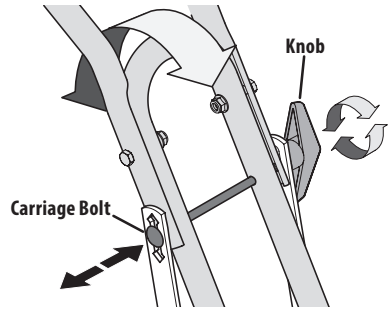

Figure 4
- There are three height adjustment holes in the handlebar support bracket. Use a setting that will position the handlebars at approximately waist level when the tines are 3-4 inches into the soil. To adjust the height of the handlebars loosen the knob on the handle, pull out on the carriage bolt, adjust to the desired setting, push the carriage bolt in until the square portion of the bolt locks into place and re-tighten the knob. See Figure 4.